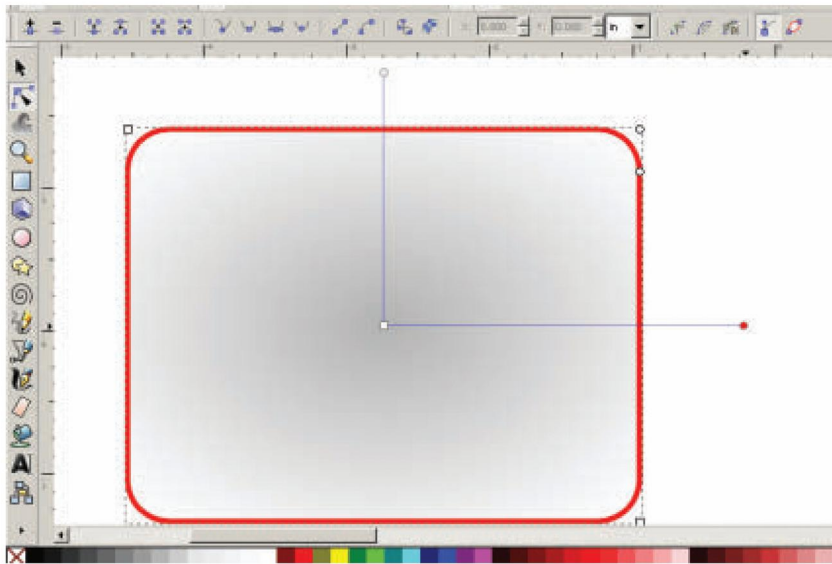

Figure 15. Adjust the scale of the gradient by dragging the horizontal and vertical control handles.
3. Click the Edit Paths icon, and re-select the rectangle. Handles for adjusting the scale of the gradient appear. As shown in **Figure 15**, drag the handles to increase or decrease the scale. I've increased the scale by moving both the horizontal and vertical handles outward.